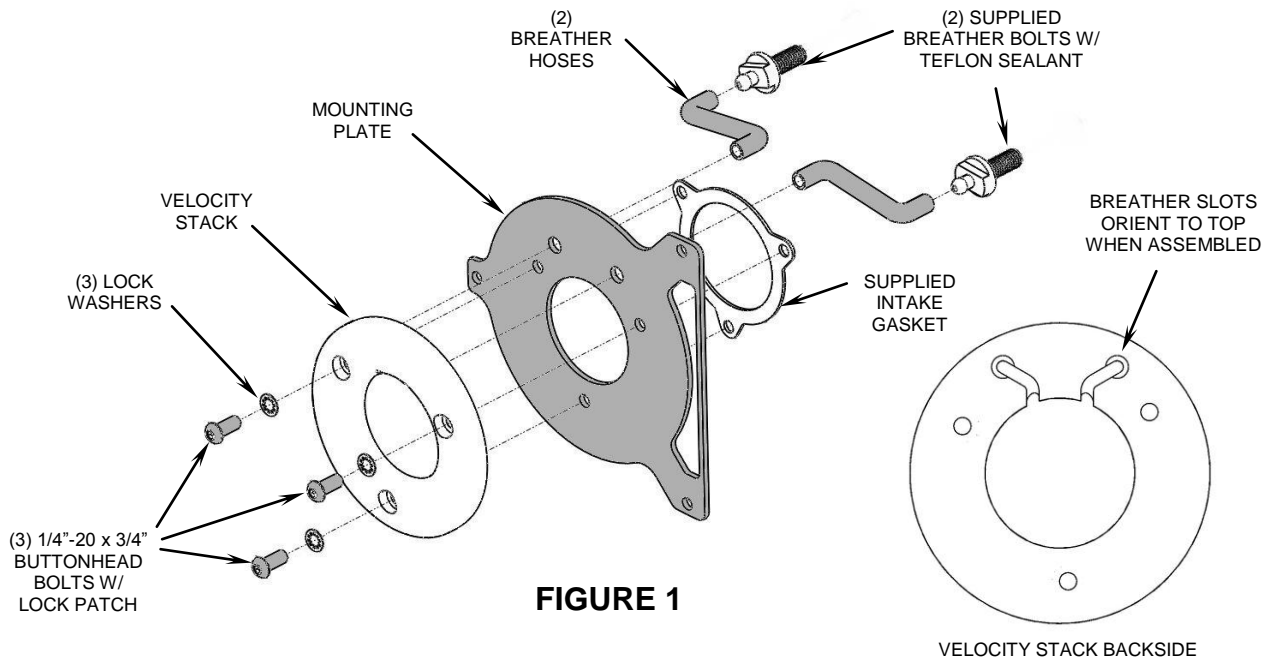

FIGURE 1
1. Remove the allen bolt from the center of the stock air cleaner to remove the cover. Remove the (3) bolts securing the formed bracket located on top of the air filter. Then remove and discard the air filter, air box and seals/gaskets.
2. Remove and discard the (2) stock breather bolts, (2) stock o-rings, and (2) stock breather hoses from the cylinder heads.
3. Insert the (3) supplied 1/4"-20 x 3/4" buttonhead bolts and lock washers through the mounting holes in the velocity stack and mounting plate. While holding that assembly together with one hand, insert the (2) breather hoses through the mounting plate and into the velocity stack with the hoses rotated outward, as shown in Figure 1. **NOTE:** Make sure the longer legs of hoses are bottomed out in the back of the velocity stack.
4. Join together the assembly from Step 3 with the supplied gasket then start threading the (3) buttonhead bolts into the throttle body, but do not tighten.